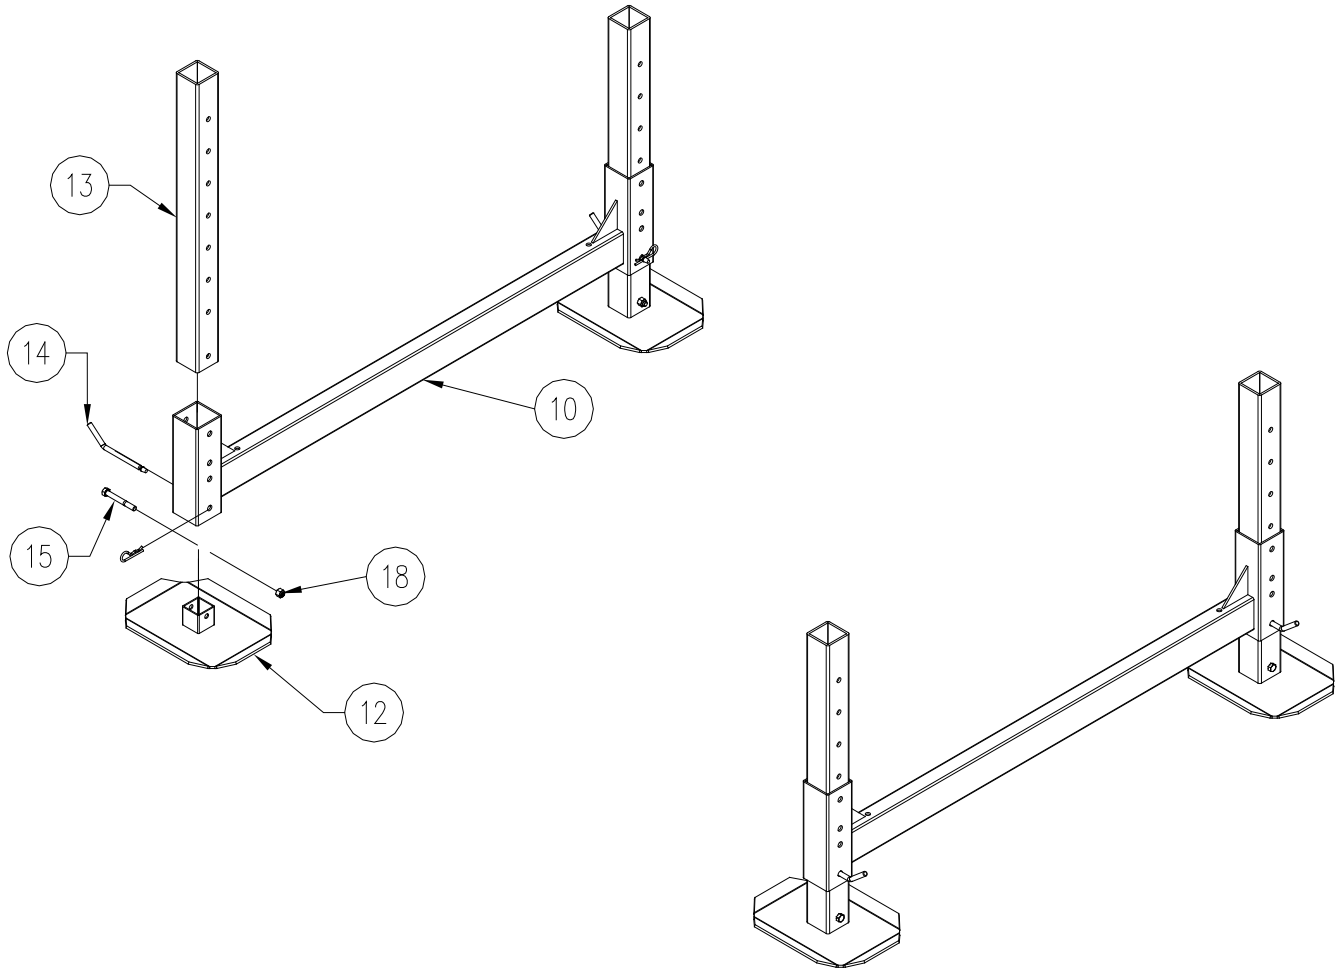

Figure 3-1.
1. Refer to **Figure 3-1**. Fasten foot plate (12) to extension leg (13) using hardware (17), and (18).
2. Insert foot plate and extension leg assembly into leg assembly (10). Insert PIN (14) and install hair pin (15) to secure pin. Adjust the extension leg and tighten hex bolt to hold in position.